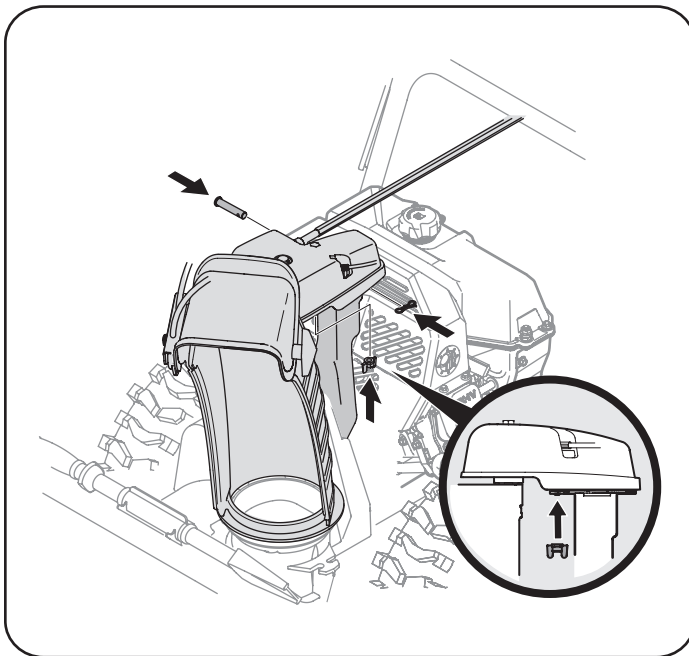

Figure 11
10. Finish securing chute control head to chute support bracket with wing nut, and clevis pin and bow-tie cotter pin removed in Step 2. Do not overtighten. See Figure 11.